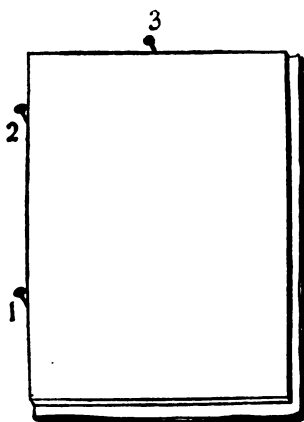
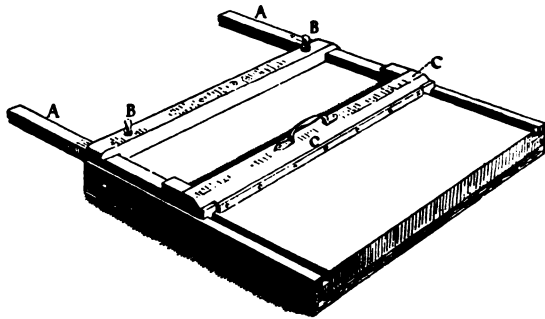

FIG. 23
FIG. 24
The sheets for trimming with end papers and all plates inserted must first be cut square at the head against a carpenter's square (see fig. 7). Then a piece of mill-board may be cut to the size it is desired to leave the leaves, and the sections trimmed to it. To do this three nails should be put into the covering board through a piece of straw-board, and the back of the section slid along nails 1 and 2 until it touches No. 3 (see fig. 23). The board is slid in the same way, and anything projecting beyond it cut off. When the under straw-board has become inconveniently scored in the first position, by shifting the lower nail (1) a fresh surface will receive the cuts. Fig. 24 is a representation of a simple machine that I use in my workshop for trimming. The slides A A are adjustable to any width required, and are fixed by the screws B B.
it touches No. 3 (see fig. 23). The board is slid in the same way, and anything projecting beyond it cut off. When the under straw-board has become inconveniently scored in the first position, by shifting the lower nail (1) a fresh surface will receive the cuts. Fig. 24 is a representation of a simple machine that I use in my workshop for trimming. The slides A A are adjustable to any width required, and are fixed by the screws B B.